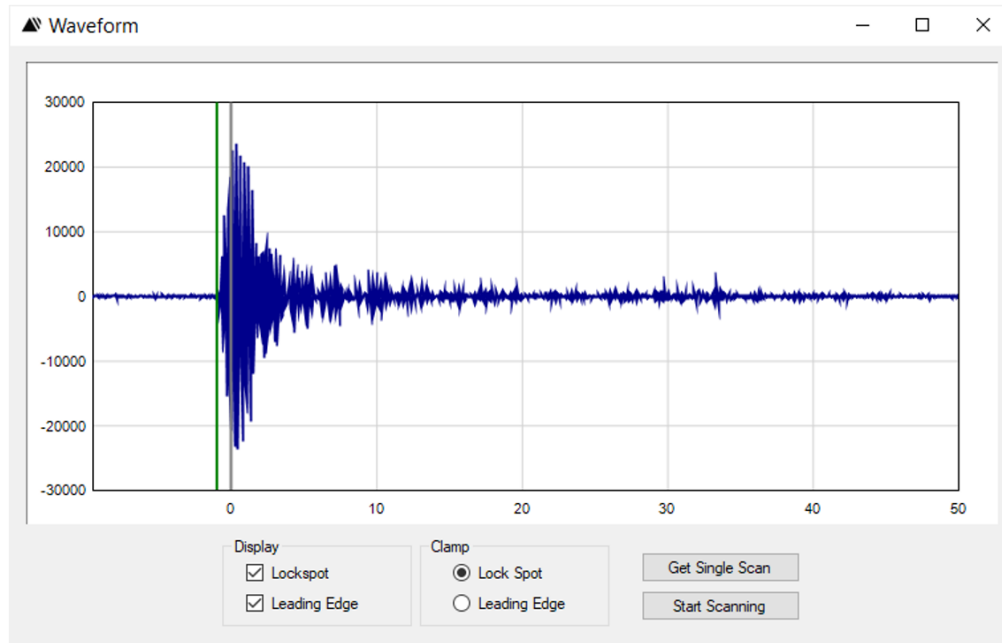

Fig. 23: Example received waveform
8. To see a received waveform, click on Show Plot and then click on Start Scanning. The waveform you see should be similar to the one shown below in **Figure 23**.